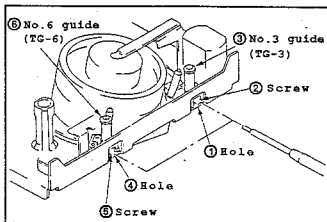

Fig.II-34
4-2 Tracking Adjustment (Fig.II-34)
- (1) Referring to the service manuals for each system, set it to the track shift made. (70 %)
- (2) Confirm that the waveform is flat. If not, turn No.3 and 6 guides to make it flat.
- (3) Tighten the screw ② of No.3 guide to lock it. At this time, confirm that the inlet side of waveform is not changed. (Fig.II-34)
- (4) Tighten the screw ⑤ of No.6 guide to lock it. At this time, confirm that the outlet side of waveform is not changed. (Fig.II-34)